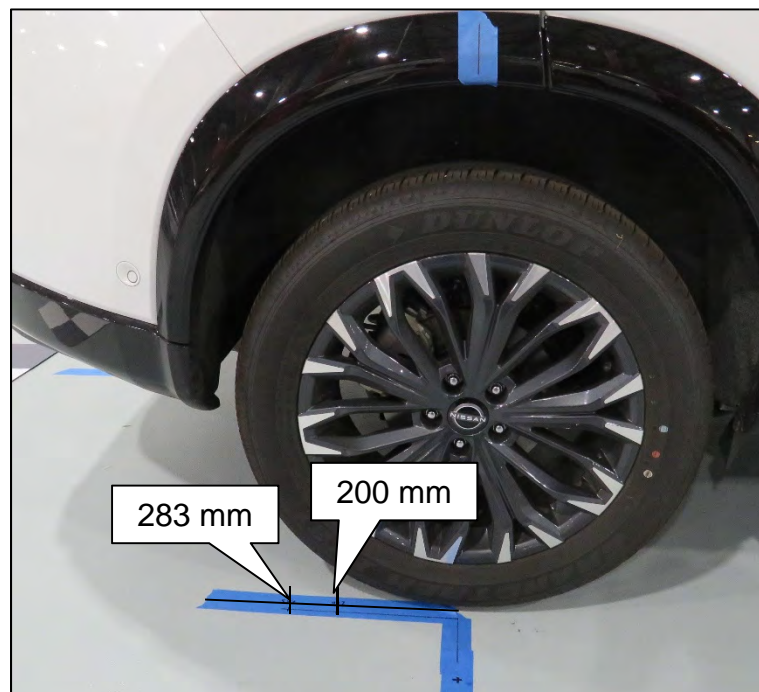

Figure 104
66. Measure 200 mm and 283 mm from the center point of the passenger (RH) side rear wheel, and then make a mark at each measurement, as shown in Figure 104.